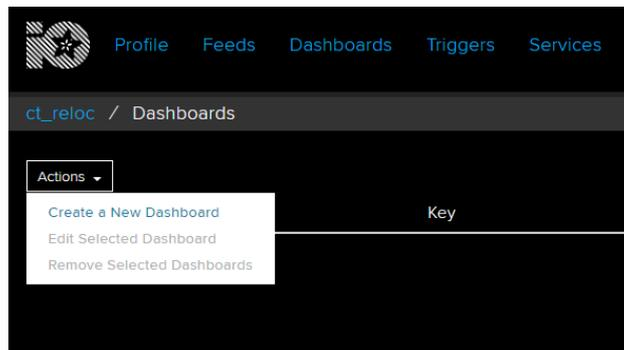

Figure 10: Create a new Dashboard.
3. Create a Dashboard (Figure 10): Click on the Dashboard menu and create a new dashboard.